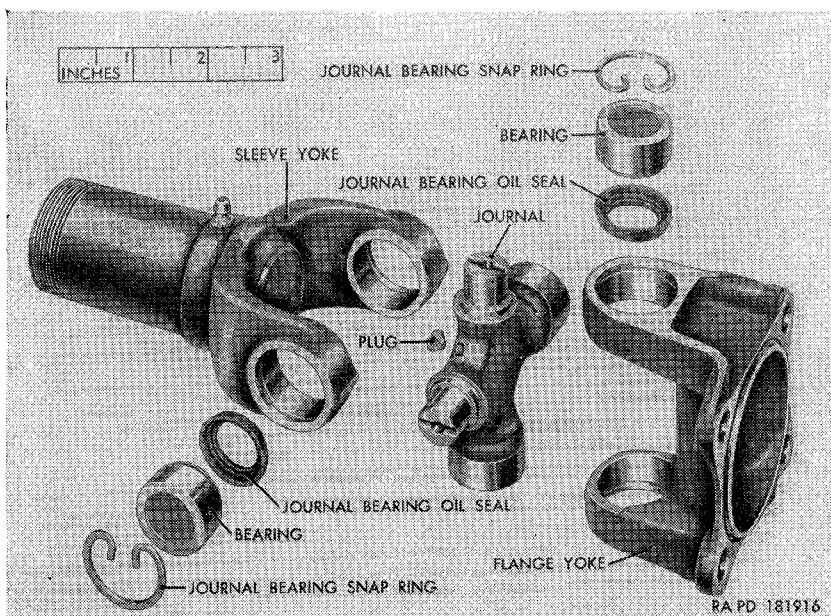

Figure 132. Rear propeller shaft front universal joint and rear propeller shaft-to-transfer flange yoke—partially exploded view.
c. Rear Propeller Shaft Universal Joints Disassembly. Remove the rear propeller shaft with universal joints (par. 203*a*). Procedure for disassembly of the rear universal joint of the rear propeller shaft is the same as the procedure for disassembly of the universal joints of the front propeller shaft (*a*(2) and (3) above). For disassembly of the front universal joint of the rear propeller shaft, refer to figure 132.
- (1) Follow the procedure of *a*(3) above to remove journal and bearings from the sleeve yoke.
- (2) Follow the procedure of *a*(3) above to remove journal and bearings from the rear propeller shaft-to-transfer flange yoke.
d. Rear Propeller Shaft Universal Joints Assembly. Procedure for assembly of the rear universal joint of the rear propeller shaft is the same as the procedure for assembly of the universal joints of the front propeller shaft (*b* above). For assembly of the front universal joint of the rear propeller shaft, refer to figure 132.
- (1) Follow the procedure of *b*(1) and (2) above to install the journal and bearings in the sleeve yoke.
- (2) Follow the procedure of *b*(1) and (2) above to install the journal and bearings in the rear propeller shaft-to-transfer flange yoke.
- (3) Install the rear propeller shaft with universal joints (par. 203*b*).